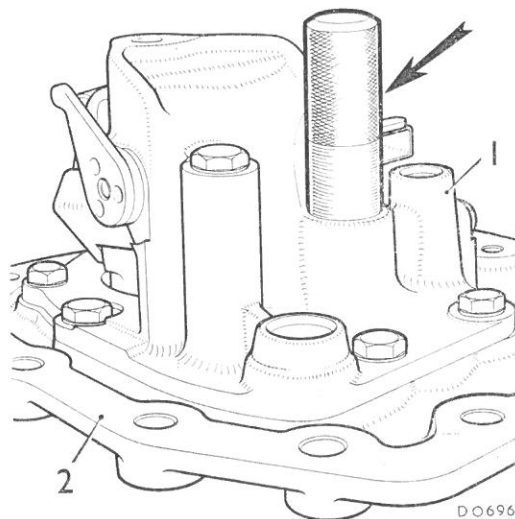

Fig. Fa.31
- (9) Reassemble the auxiliary pump gear with its bi-metal washer to the pump casing.
- (10) Refit the governor auxiliary pump gear and circlip. Ensure that both gears are seating correctly and will rotate freely after assembly.
- (11) Refit the governor assembly to the auxiliary pump and refit the centre shaft.
- (12) Use Service tool 18G 1106 to centralize the auxiliary pump and governor unit with the end cover (see Fig. Fa.31), tighten the securing bolts to the torque figure given in 'GENERAL DATA' and remove the Service tool.
- (13) Refit the speedometer drive assembly, with a new joint washer.